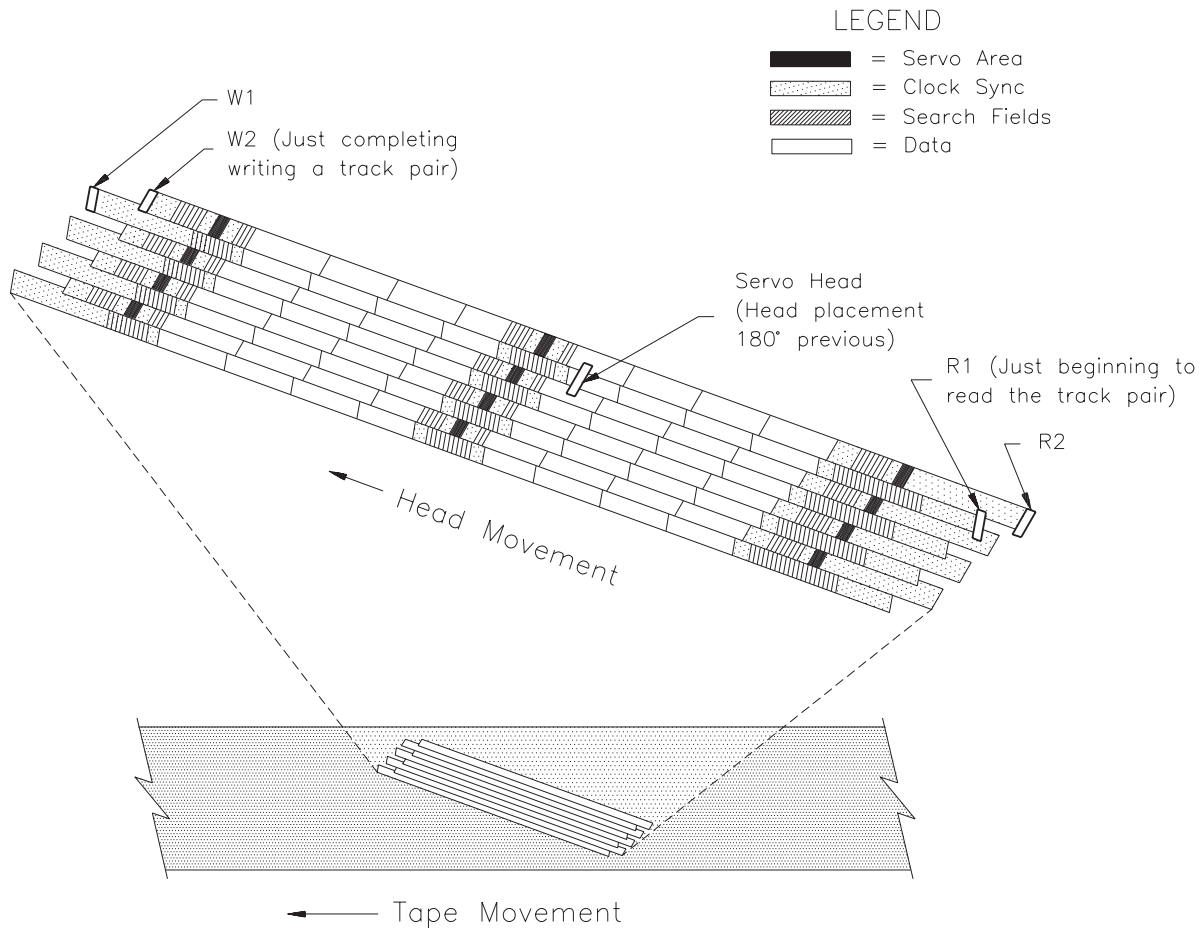

Figure 2-4 Position of the tape drive's heads relative to the tracks (8500/8500c format)
Figure 2-4 shows the position of the EXB-8505 and EXB-8505XL's write (W1, W2), read (R1, R2), and servo heads, relative to the tracks as the heads pass across the tape when the tape drive is writing or reading 8500 and 8500c format tapes.
- In 8500/8500c format, the tape drive places a servo area at the beginning, middle, and end of every other track (as shown in Figure 2-4).